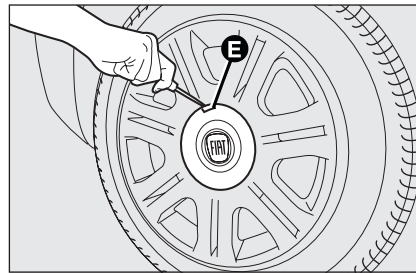

fig. 12
- for cars fitting alloy rims, remove the hub cap using the screwdriver provided levering in groove **E**-fig. 12 as shown in the figure;